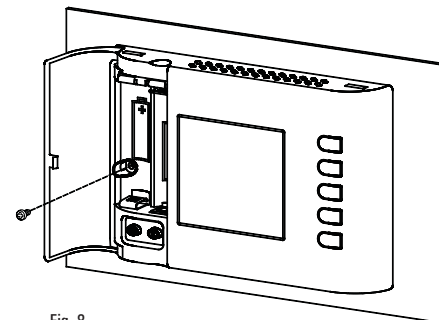

Fig. 8
- 5 Secure the body of the thermostat to the wall plate using the supplied screw that must be placed inside the battery compartment (Fig. 8).